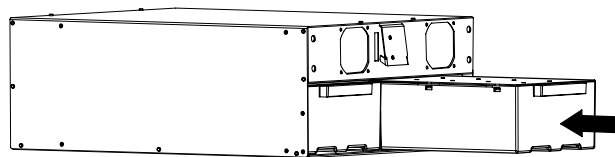

Figure 2. Installing the Battery Trays
2. Slide the battery trays into the chassis (see Figure 2).